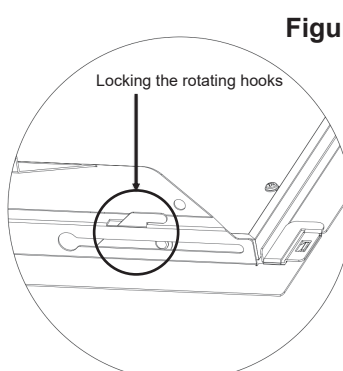

Figure10
STEP6: Secure the panel kit by locking the rotating hooks on each end of the mounting brackets A. The correct way of locking rotating hooks is like Figure 10.